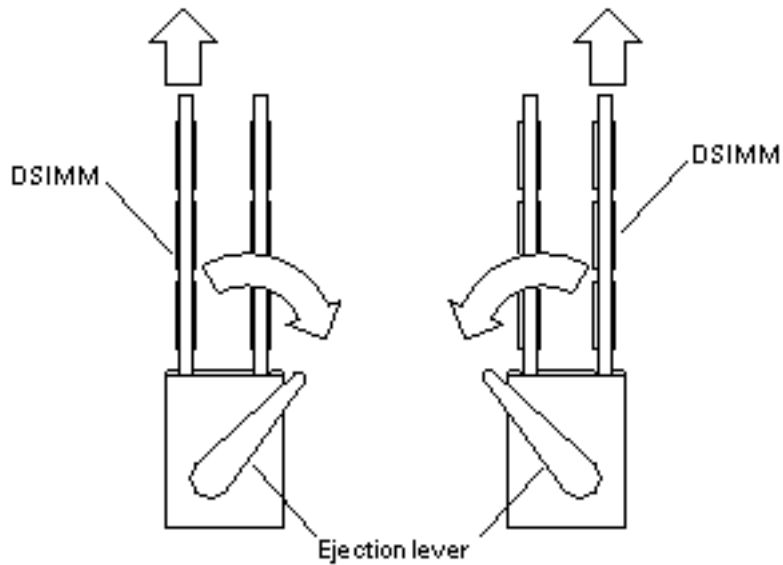

Figure 2-23 DSIMM Ejection Lever
2. Push the lever away from the DSIMM (Figure 2-23).